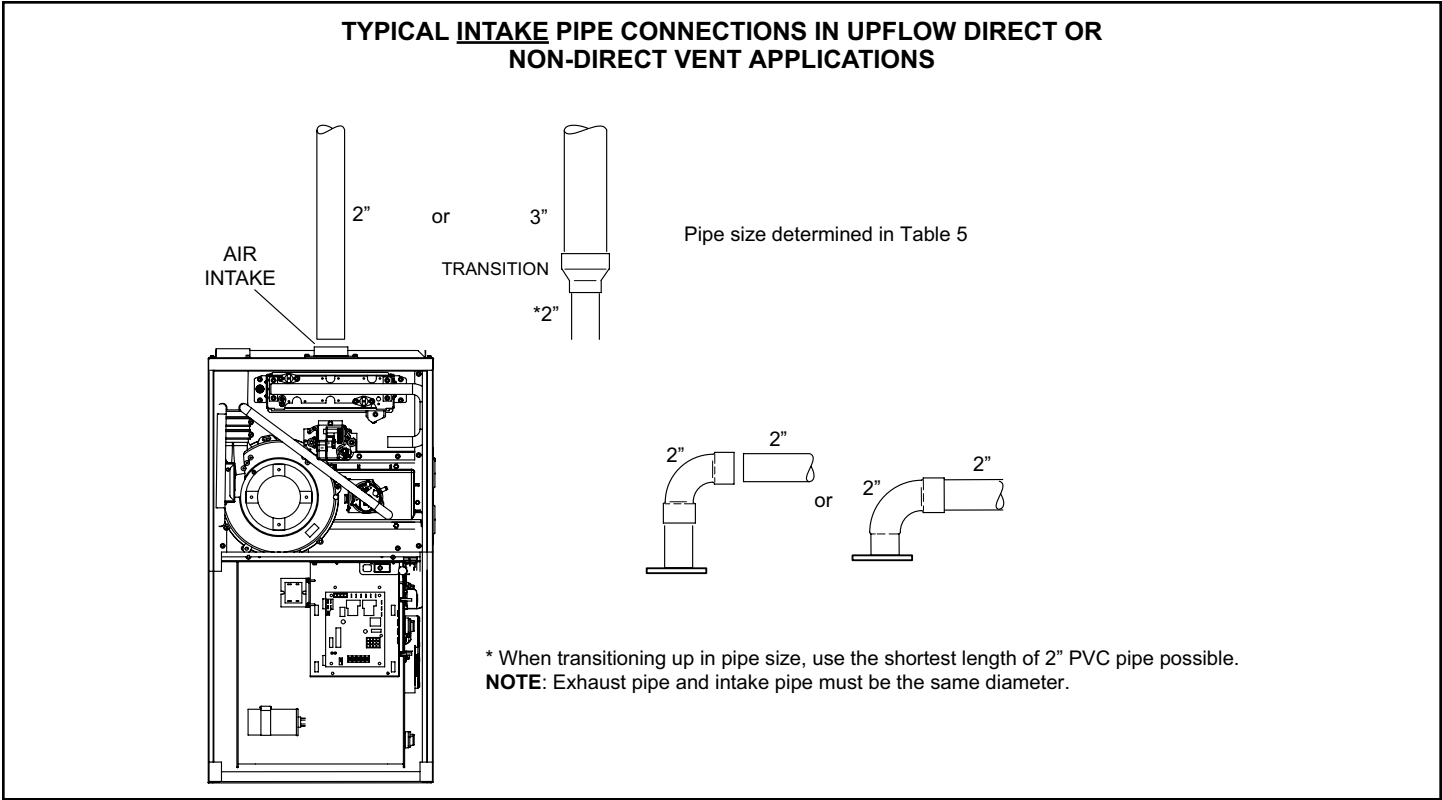
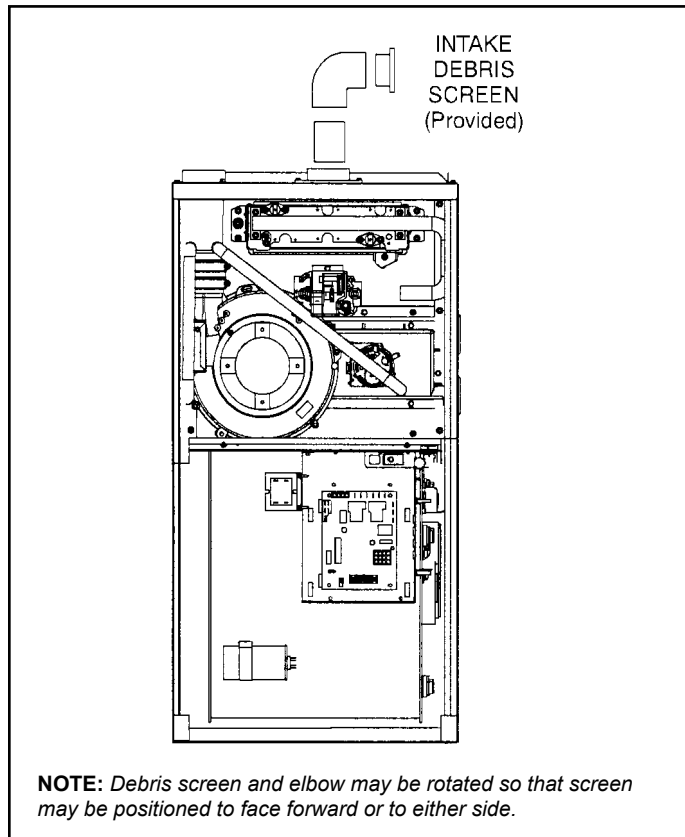
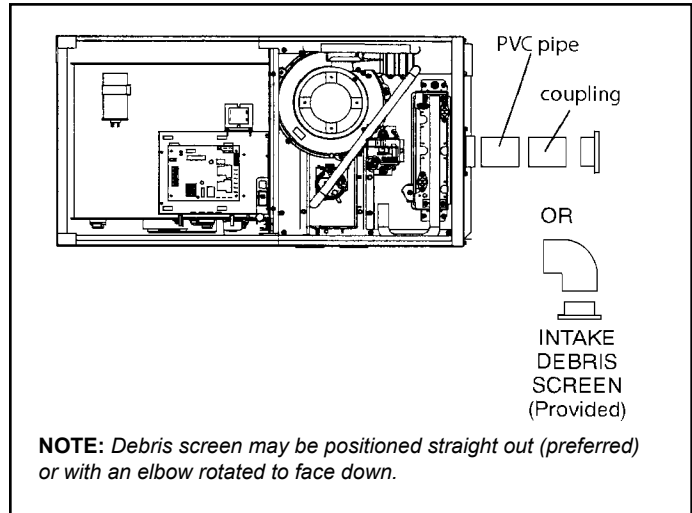

Figure 27. Typical Air Intake Pipe Connections in Upflow Direct Vent Applications
Figure 29. Typical Air Intake Pipe Connections Upflow Non-Direct Vent Applications
Figure 30. Typical Air Intake Pipe Connections - Horizontal Non-Direct Vent Applications (Horizontal Right-Hand Air Discharge Application Shown)
See Figure 27 through Figure 30.
1. Use field-provided materials and the factory-provided air intake screen to route the intake piping as shown in Figure 29 and Figure 30. Maintain a minimum clearance of 3" (76 mm) around the air intake opening. The air intake opening (with the protective screen) should always be directed forward or to either side in the upflow position, and either straight out or downward in the horizontal position.